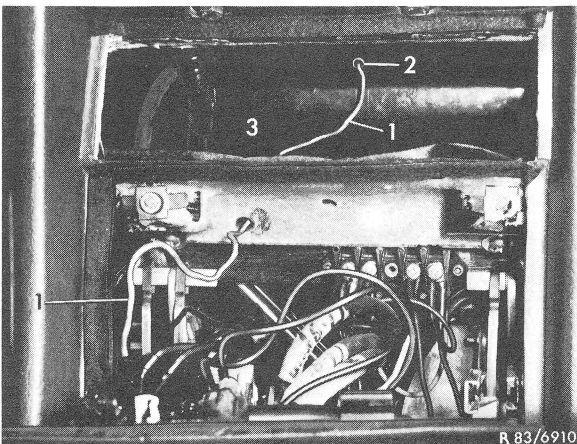

Figure 4
**16** Lay capillary with temperature sensor (1) toward evaporator box (3) and slide into guide pipe (2) in evaporator up to mark (275 mm) (Fig. 4).
**17** Reinstall cover (7).